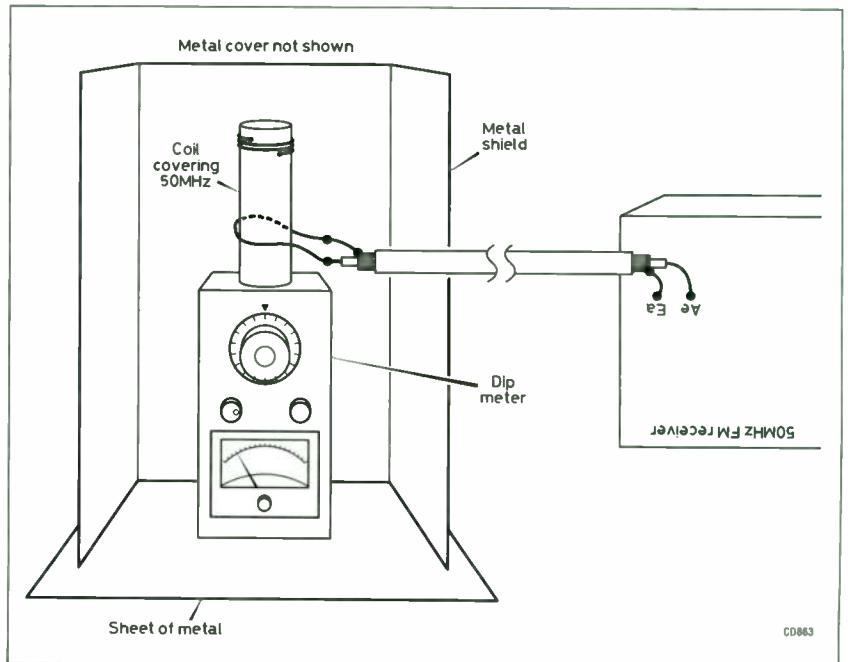

Fig 6.7. Using a ‘dip’ meter as a substitute for a signal generator
7. This part of the construction can only be carried out if a signal generator covering 50MHz is available. Alternatively it is possible to use a dip oscillator connected as shown in Fig 6.7. The dip meter should not be used by holding its coil close to L1 as energy will also be picked up by L2. The dip meter needs to be enclosed in a metal box and the coupling made by means of a one-turn coil. The piece of coaxial cable enables the meter to be operated at